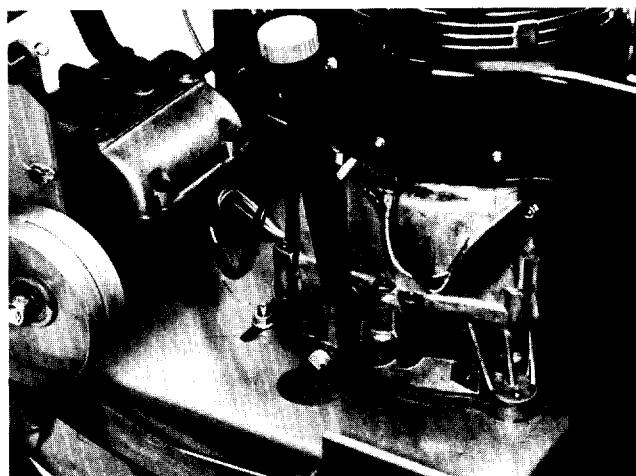

Figure 12
- B. Turn engine off and place drain pan under frame, below drain plug (Fig. 12). Remove drain plug and allow all oil to flow into drain pan. Install drain plug after oil stops flowing.